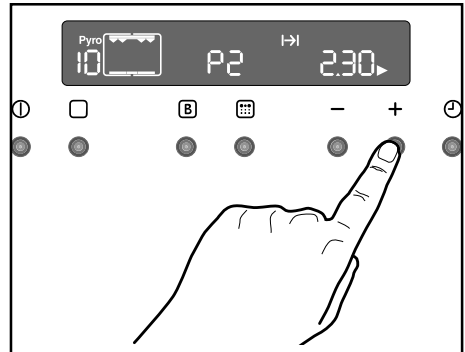

Fig. 19
- The Cooking Duration symbol  will flash for 5 seconds; during this time push '-' or '+' buttons to select the pyrolytic 1 (P1) or pyrolytic 2 (P2) function (Fig. 19).